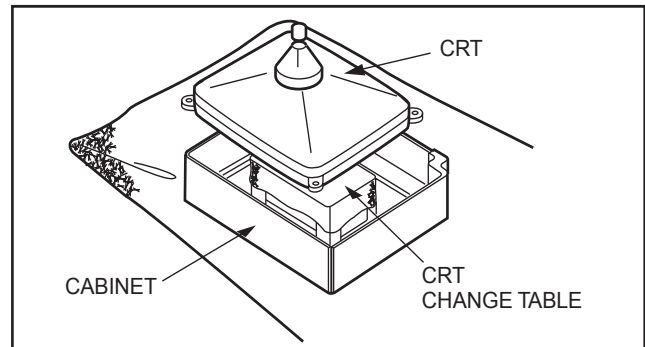

Fig.4
- (4) After 4 screws have been removed, put the cabinet slowly on cloth (At this time, be carefully so as not to damage the front surface of the cabinet) shown in Fig. 4.